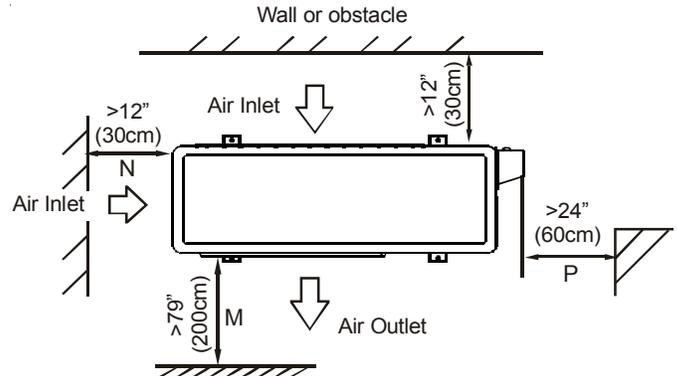

Figure 15
- See Figure 15 for minimum distances to obstacles. Two of the three must remain unobstructed.